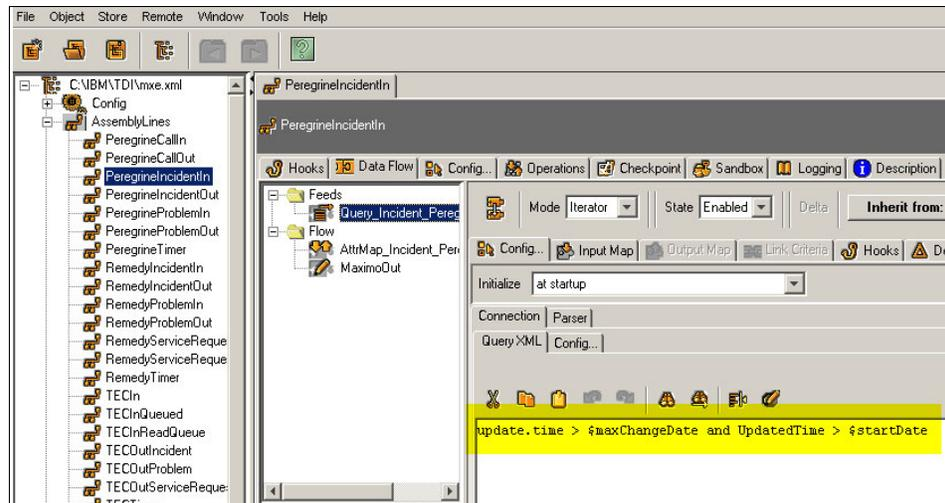

Figure 4-3 AssemblyLine configuration: Querying HP ServiceCenter database
7. By default, AssemblyLine queries the HP ServiceCenter database (Figure 4-3).